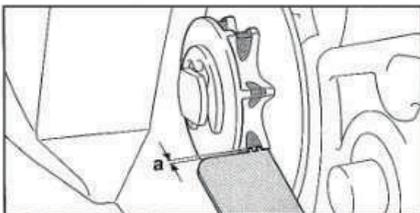

Figure 4
- c) Remove the bar and chain, measure the depth of the sprocket groove using a depth gauge. (Figure 4). If the groove depth exceeds 0.5mm, do not use the chain saw and contact your distributor to replace the chain sprocket as soon as possible. If you are unable to measure, please contact your distributor for verification.